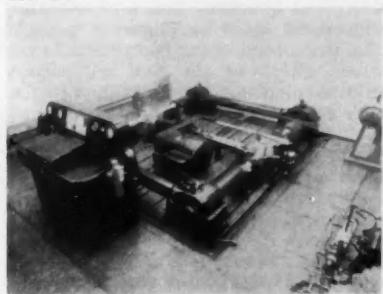

Fig. 1—This dynamometer test machine represents the latest in a series of axle gear test rigs used by Cadillac over the past 30 years.
**A** NEW dynamometer test machine of the four-square type is being used by Cadillac for the testing of axle gears in a normal environment. Fig. 1 shows the complete machine with control panel.